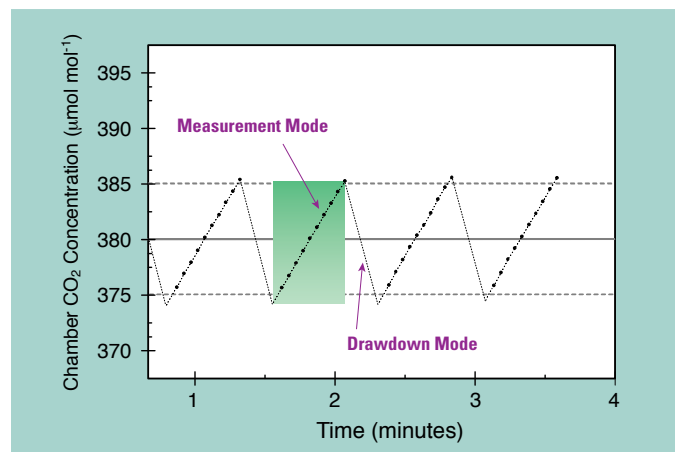

Figure 4. Data from a measurement with four cycles.
1. Ambient CO₂ concentration ($380 \mu\text{mol mol}^{-1}$, in the example in Figure 4).
2. The CO₂ change that determines the upper and lower set points ($\Delta\text{CO}_2 = \pm 5 \mu\text{mol mol}^{-1}$ from ambient in Figure 4).
The LI-6400/6400XT enters drawdown mode after the "Start" key is pressed. Air is pumped from the chamber through the soda lime CO₂ scrubber and back into the chamber. The system software automatically stops the pump and enters measurement mode after the CO₂ concentration drops to just below the set point (Figure 4).